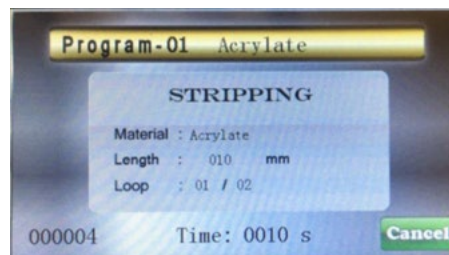

Figure 3.2.6
- (3) The program recipe will appear as shown in Fig. 3.2.6, and the operation starts.